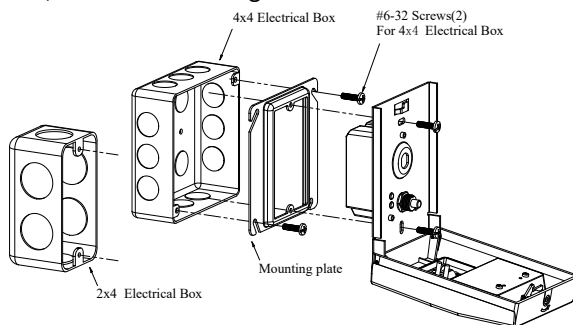

Figure 1. Pull Station Installation
3. Mount the station onto a 2X4" or 4x4" electrical box, as illustrated in Figure 1.